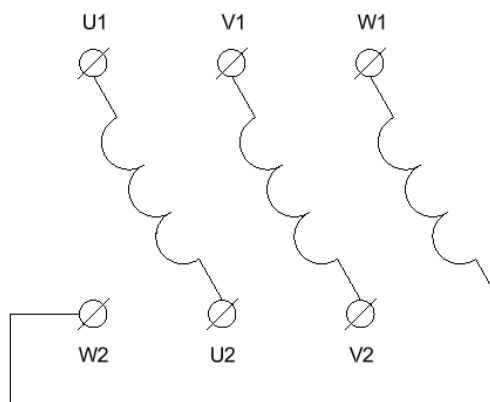

Figure 6.3 – Motor Terminal Block
- (b) A customer calls an authorised person to connect a motor to his system. The authorised person notes that the motor is with 6 tails terminated on lugs without any identification and not terminated on the terminal block as shown in Figure 6.3. The motor was a replacement found in the store. What are the six terminations for? (2 marks)